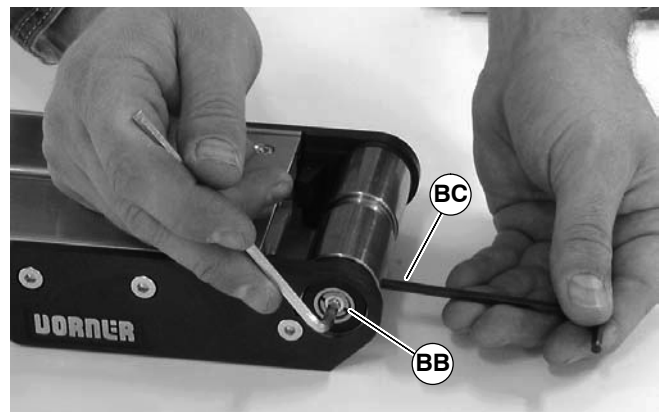

Figure 50
5. On both sides of pulley, use a 4mm hex-key wrench to tighten shaft bearing taper screws (BB of Figure 50) to 8.5 Nm. Steady pulley with second hex-key wrench (BC) inserted into pulley hole.